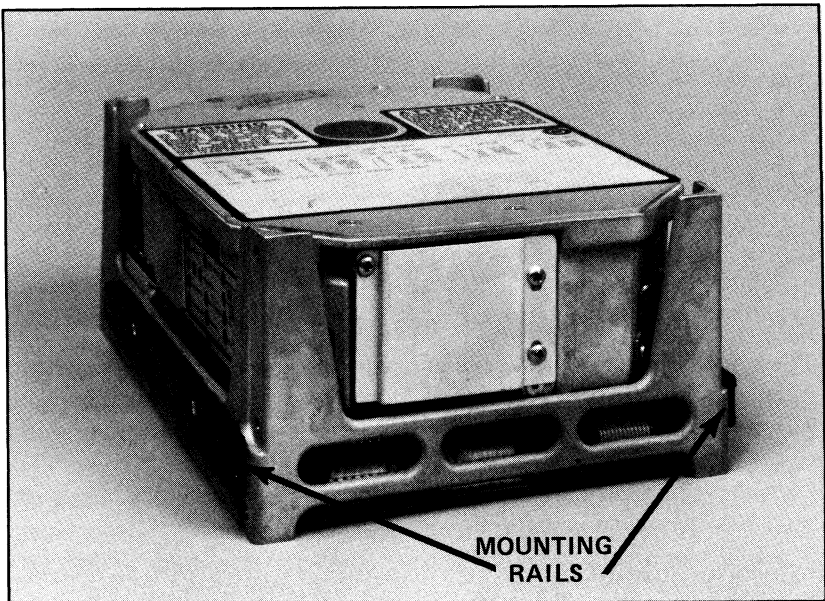

Figure 2-8. Location of the Hard Disk Drive Mounting Rails
2. Locate your hard disk drive (half-height or full-height) and make sure the mounting rails are attached to the drive chassis (Figure 2-8). If the rails are not connected, attach them according to the manufacturer's instructions.
4. Make sure the mounting rails are attached to the drive chassis (Figure 2-8). If the rails are not connected, install them according to the manufacturer's instructions.